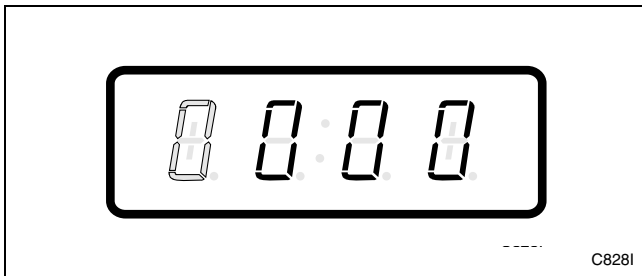

Figure 83
6. Press the START (enter) keypad to enter the fifth digit and display remaining four digits. The active digit will flash one second on and one second off. Refer to *Figure 83*.